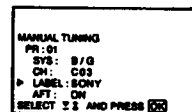

Fig. 13
- 7 Select a letter or number with Δ or ∇ and press OK. Select other characters in the same way. If you want to leave an element blank, select - and press OK. (See Fig. 13.)